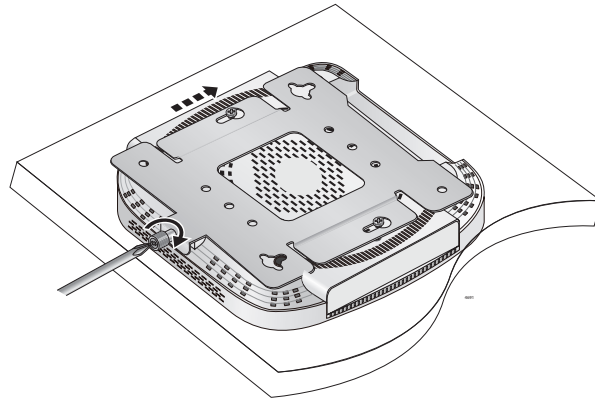

Figure 17. Securely Fasten Chassis to Mounting Bracket with Thumbscrew
3. Tighten the bracket thumbscrew into the front of the chassis until it is securely fastened. Refer to Figure 17.